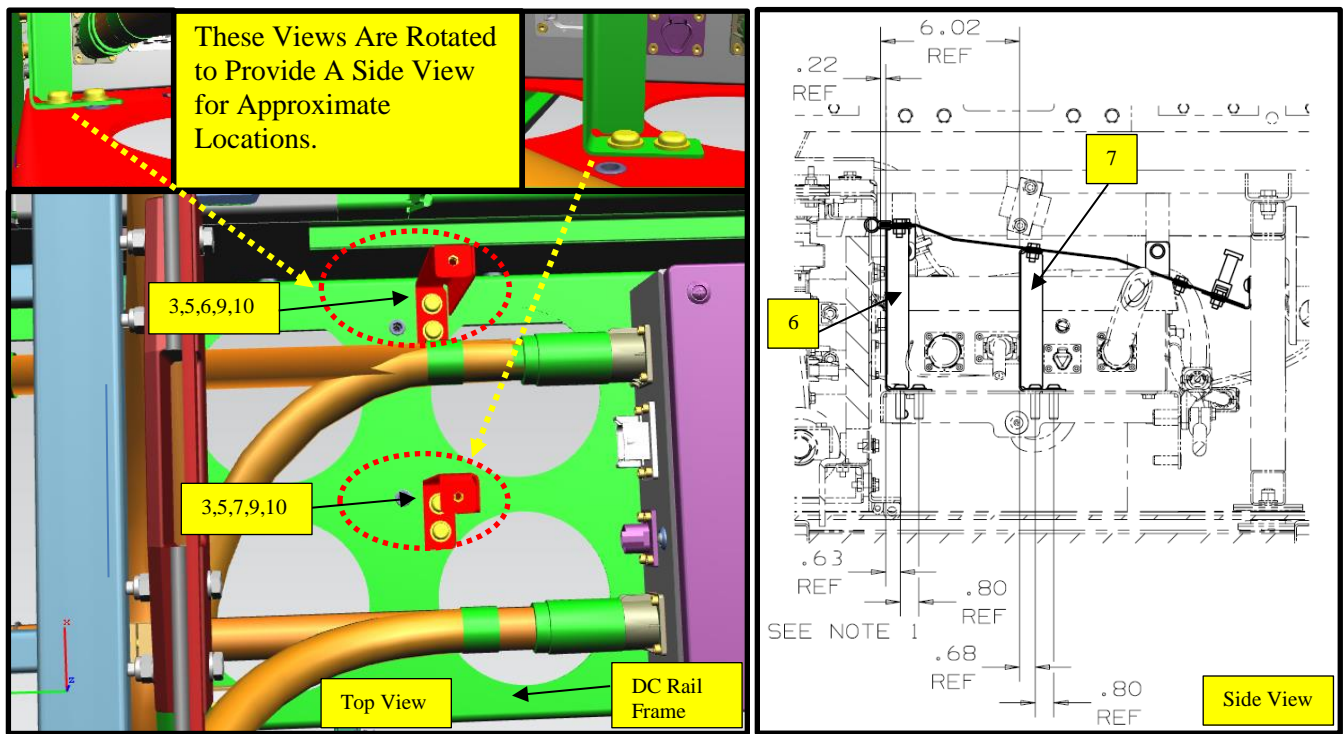

Figure 4: Curb side secondary cover bracket location reference.
12. Using items #6 Tall bracket and item #7 Short bracket mark the mounting holes as close to the reference dimensions shown below as possible on the DC rail frame. See Figure 4.
13. Drill a pilot hole with a 1/8" drill bit in the four marked locations then open up with a 25/64" drill bit and install item #9 Rivnut with a rivnut tool. See Figure 4.
14. Install Items #6 and #7 Brackets as shown below with items #8 Screws, #3 Washers, item #10 Never Seize and apply 1 or 2 drops of Loctite #5 See Figure 4.